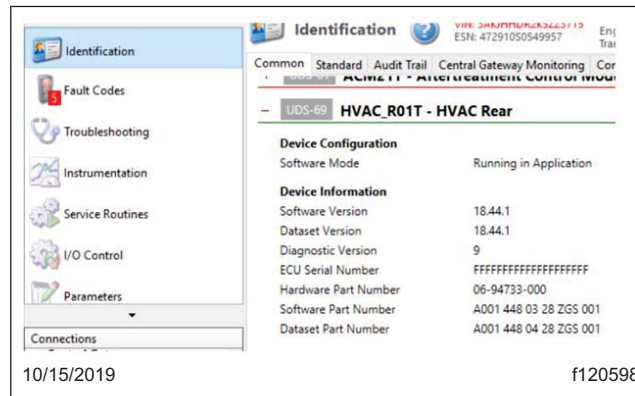

Fig. 10, Verifying the Software Level
10. Update HVAC_R01T and HVAC_F01T to the "Newest" software level, 18.44.1. If "Newest" is not available, the ECU may already have the correct software. Verify that the software version is 18.44.1, or higher, in DiagnosticLink Identification. See Fig. 10.